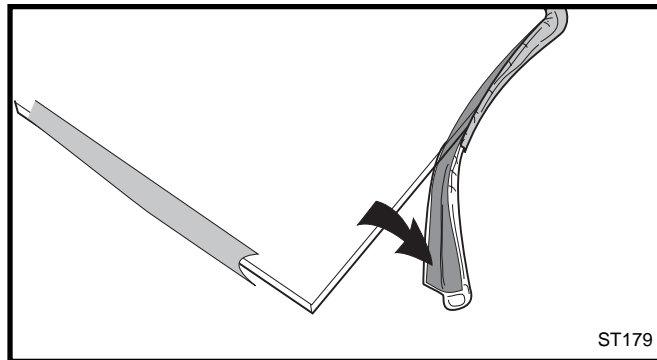

Fig. 46 Wrap the gasket material around the outside edge of the glass.
3. Starting on a long edge, remove about 6" of the protective paper strip and apply the flat adhesive face of the gasket around the outside-facing edge of the panel. Continue around the panel, applying about 6" at a time being careful not to stretch the material. Do not overlap the gasket ends. (Fig. 46)